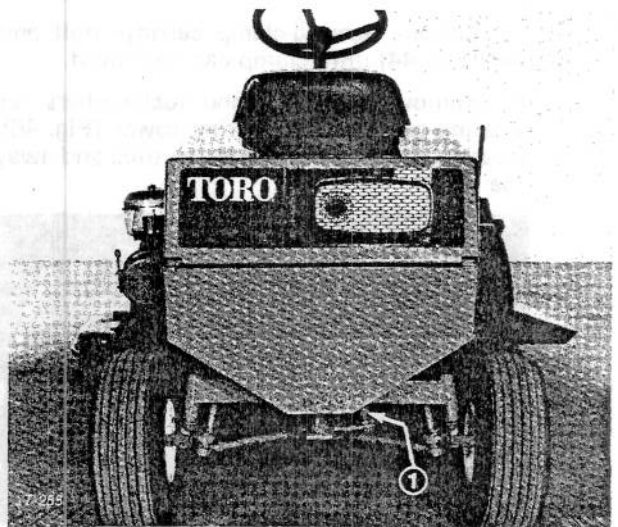

Figure 50
1. Remove cotter pin and slotted nut from tie rod end that connects steering tube to steering plate (Fig. 50). Separate tie rod end from plate.
12. Slide tie rod end at end of steering tube through steering plate, and secure parts together with slotted nut (Fig. 50). Tighten nut until it is tight and holes in nut and tie rod end line up. Then install cotter pin through nut and tie rod end.